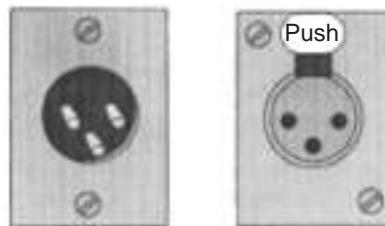

Fig. 10.4: A 3-pin XLR-type connector used in balanced equipment.
- Phono jack (RCA connector)-Figure 10.4